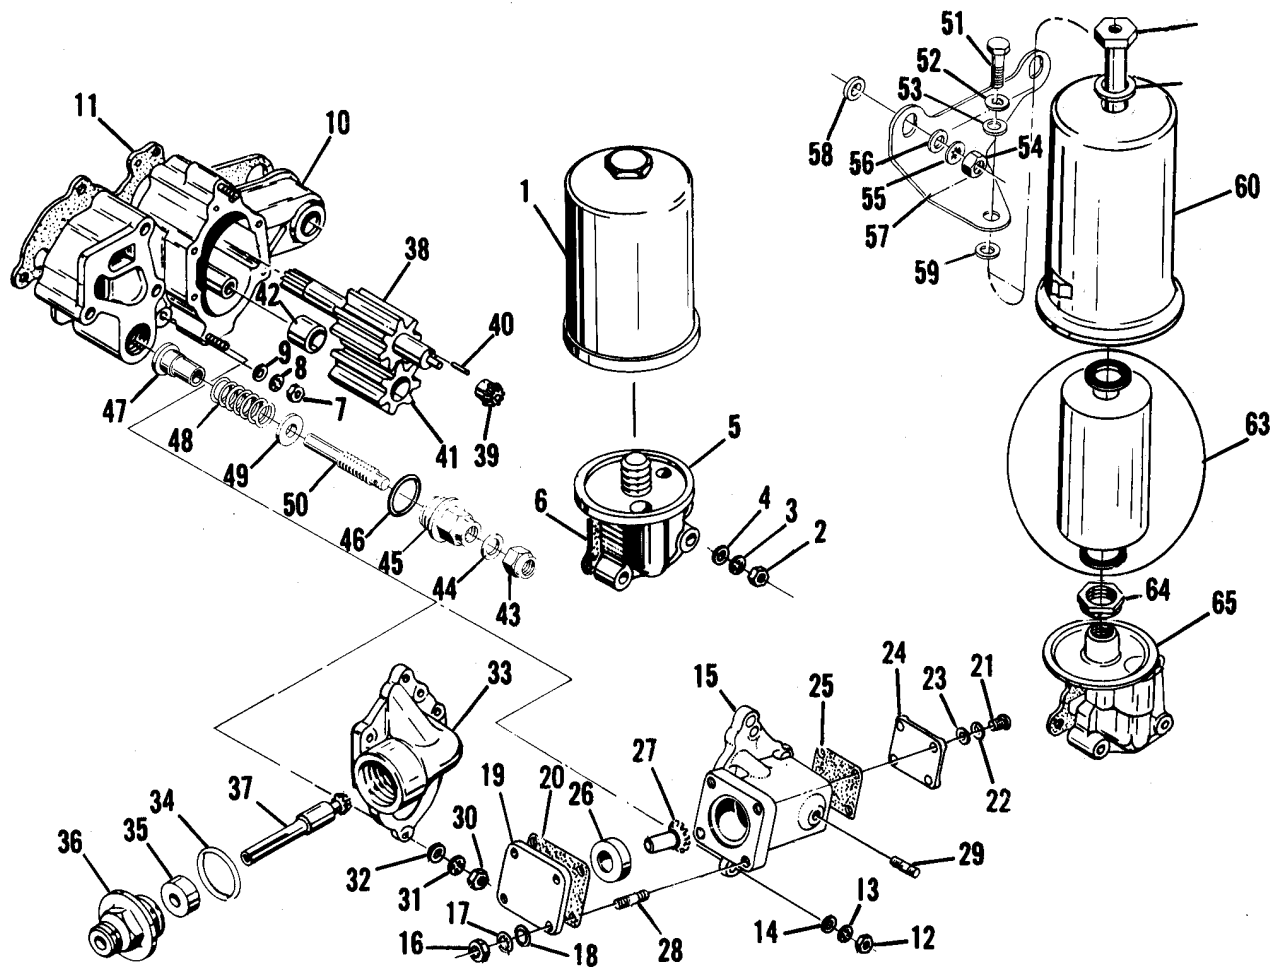

FIGURE 4-19. OIL PUMP (PERMOLD ENGINE FULL FLOW TYPE FILTER).
4-24. OIL PUMP ASSEMBLY, FULL FLOW (See Figure 4-19).
o. Lift out idler gear assembly, crankshaft assembly with connecting rods, thrust washers and bearings (See Figure 4-19).